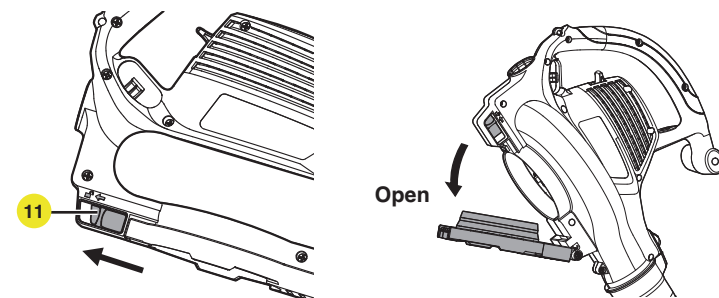

Fig. 2
- Turn on the trigger switch and open vacuum gate. (Fig. 2)